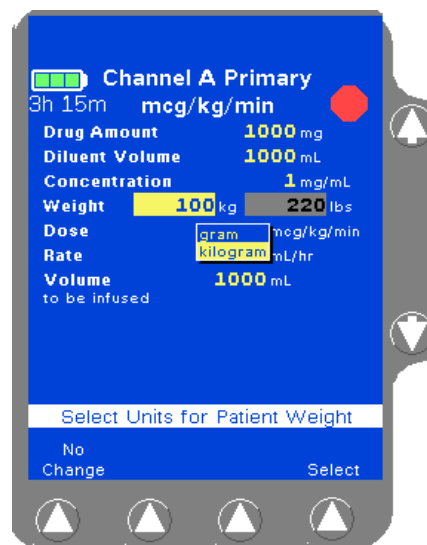

Figure 4-63 Enter Weight
- Highlight the **Weight** field and enter the patient's weight using the numeric keypad (Figure 4-63). Depending on how the pump has been configured, the **kg** or **lbs** field may not be available for data entry.
- For small patients, weight can be entered in grams (or ounces) if appropriate. Highlight the **Weight** field, press the **Units** soft key to display the weight units list (Figure 4-63), highlight the desired weight unit, then press the **Select** soft key.